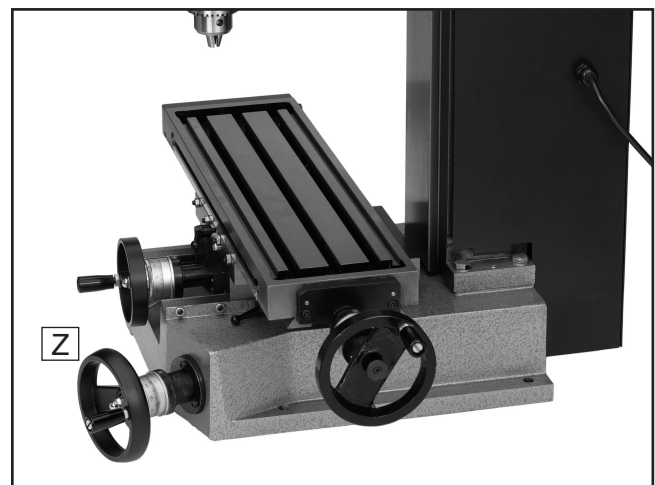

Figure 12. Z axis control.
2. Turn the vertical (Z) axis handwheel shown in **Figure 12** to raise and lower the headstock.